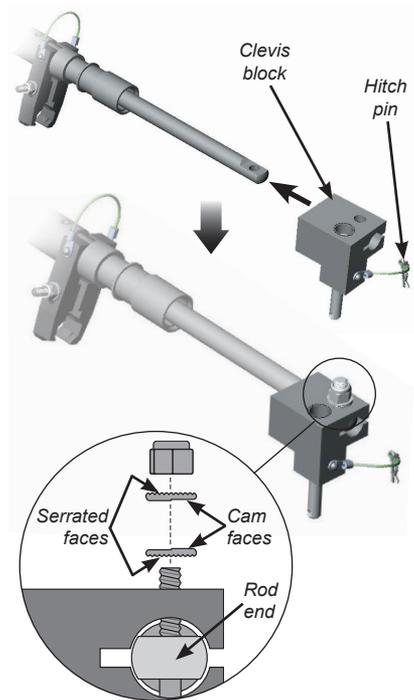

Fig B28 - Fitting the clevis block to the secondary cable rod end
- iii) Insert the cable rod end into the slotted hole in the clevis block. Ensure the clevis block is correctly oriented as shown, with the clevis pin pointing down (Fig B28).